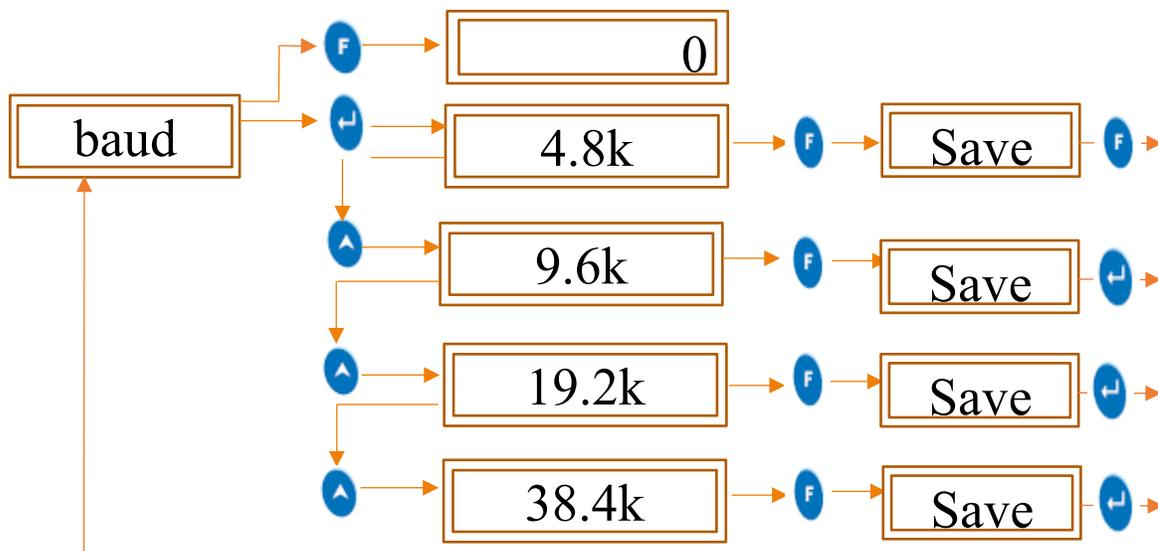

Figure 28 BAUD (Baud rate)
- The settable baud rates are: 4.8k, 9.6k, 19.2k, 38.4k bps. To set device baud rate follow the steps given in figure 28.